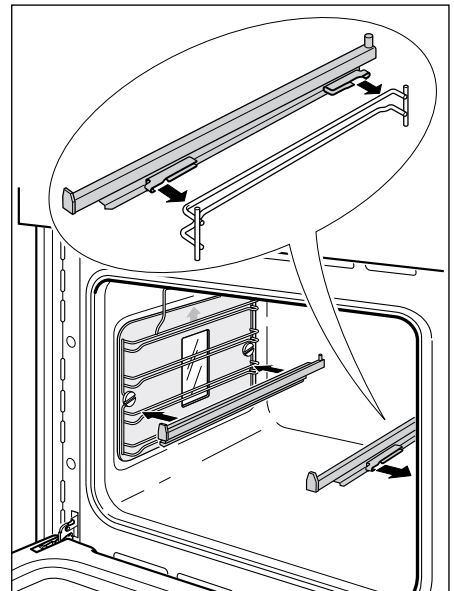

Fig.46 Refitting the sliding shelf supports
- 2 Fit the sliding shelf support onto the top wire of a rack and press (Fig. 46). You will hear a click as the safety locks clip over the wire.
- *the slides so that they run out towards the oven door, as shown in Fig. 46.*